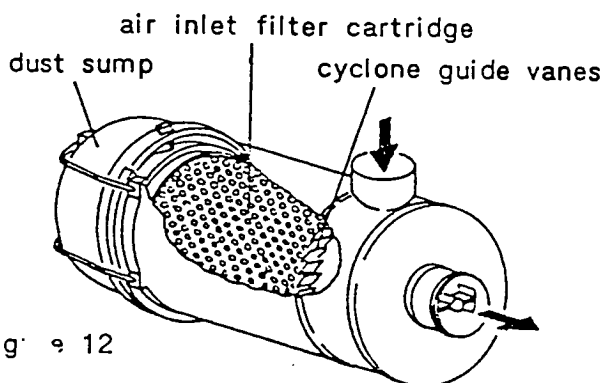

Figure 12
- Opening of the filter housing (Figure 12):